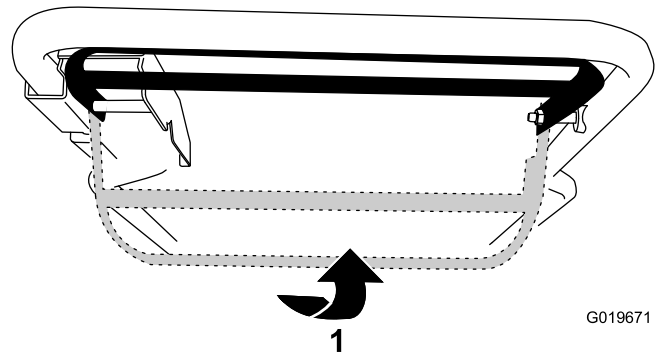

Figure 15
- To operate the self-propel drive without engaging the blade:** Raise the blade-control bar to the handle (Figure 15).